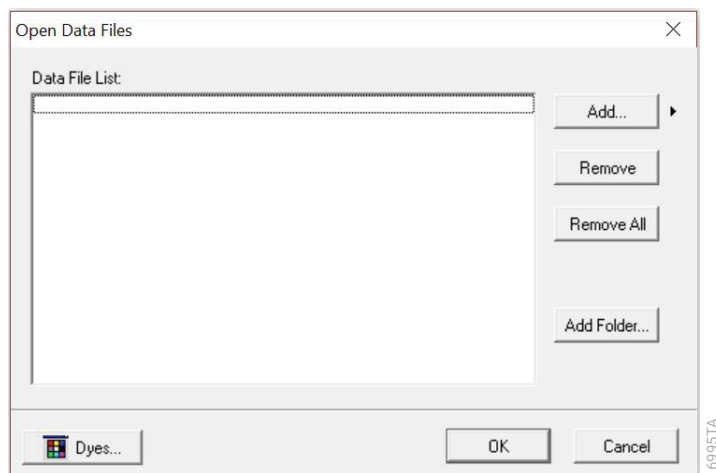

Figure 19. The GMHID-Spectrum Data File List.
4. Select **Open**, and the selected files will appear in the Data File List (Figure 19).